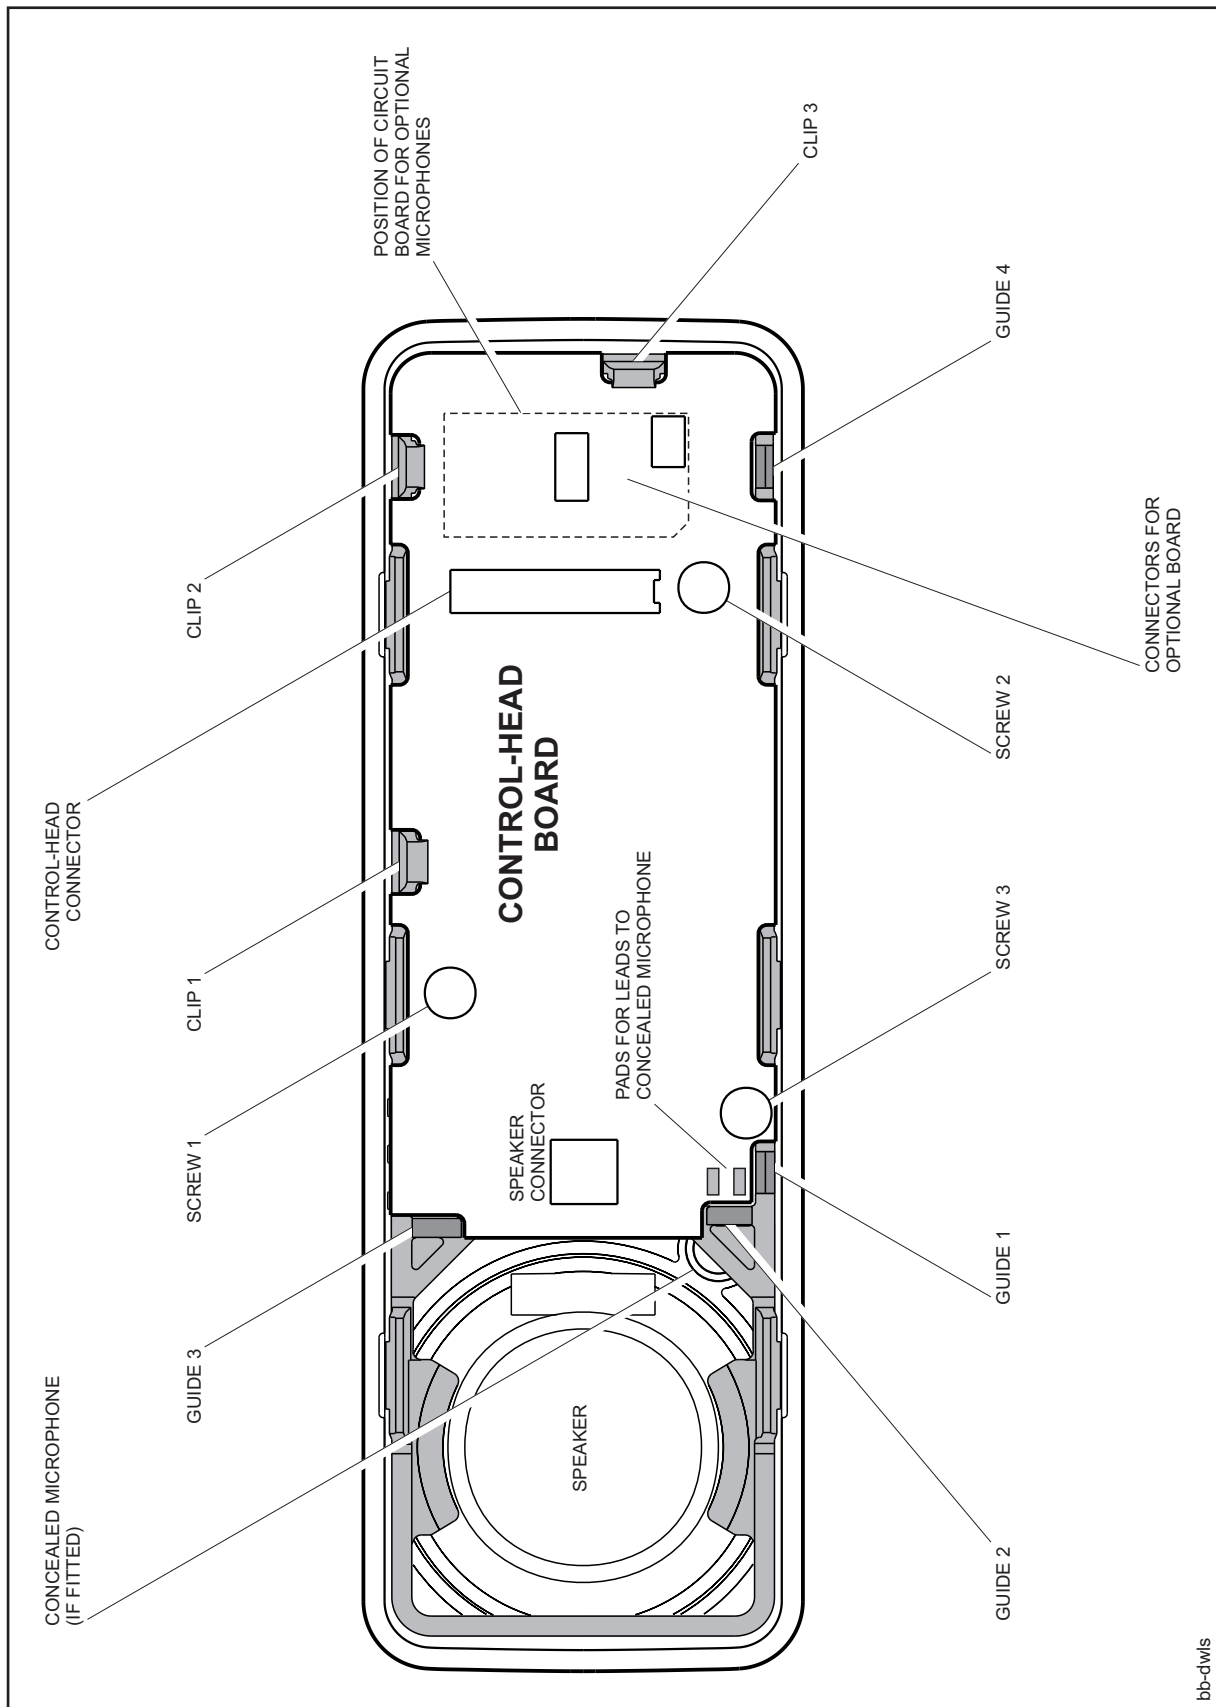

Figure 3.3 Plan view of the control head showing the control-head board
The procedure for removing the control-head board is as follows. Refer to Figure 3.3.
3. If a concealed microphone is fitted, unsolder the microphone leads from the control-head board. The leads are soldered to pads on the board as shown in Figure 3.3.
5. Remove the screws securing the control-head board. The order of removal is immaterial. The screws are labelled screw 1 to screw 3 in Figure 3.3; these numbers are also inscribed on the PCB. The control-head board is now held down only by the clips labelled clip 1 to clip 3 in Figure 3.3.